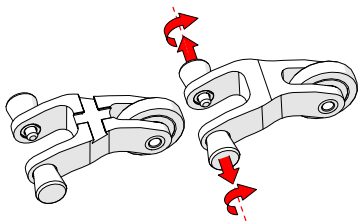

Fig. 47 - Pull out and twist pins
1. Pull the pins out from the wheels, twist a quarter turn latching the pins in a retracted state (Fig. 47).